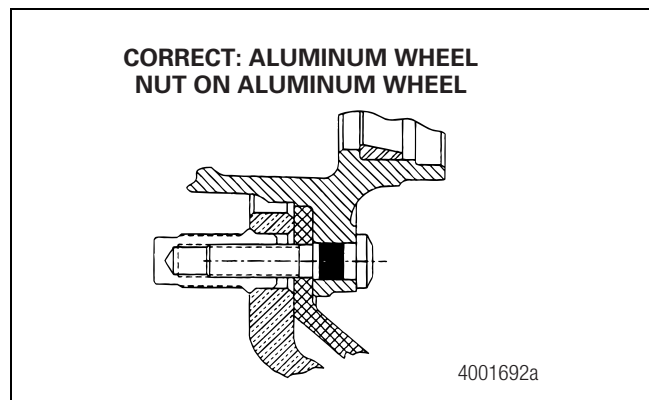
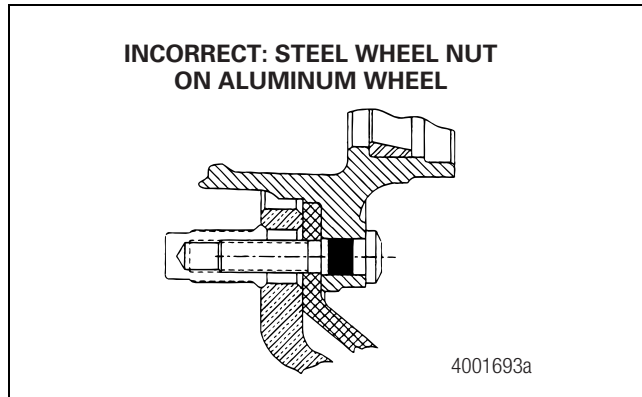

Figure 13.39
Figure 13.40
- Install 33 mm hex two-piece flange nuts into ISO 285.75 mm bolt circle diameter (BC) and ISO 335 mm BC systems.
6. Install aluminum wheel nuts onto aluminum wheels. Do not install steel wheel nuts. An aluminum wheel nut has an extension to accommodate the thickness of the aluminum. Figure 13.39 and Figure 13.40.